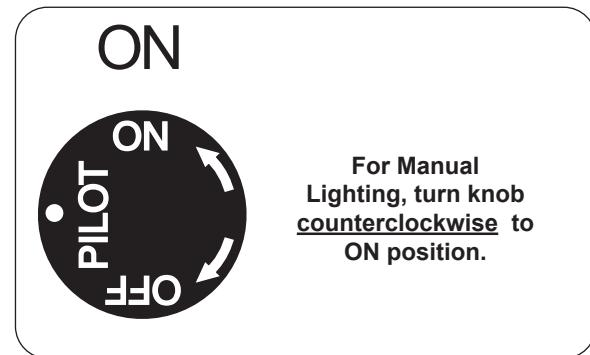

Fig. 39-3 Control knob detail (ON)
- Turn the gas control knob counterclockwise to **ON** (Fig. 39-3) to ignite the burner. The valve will open and the burner will light.